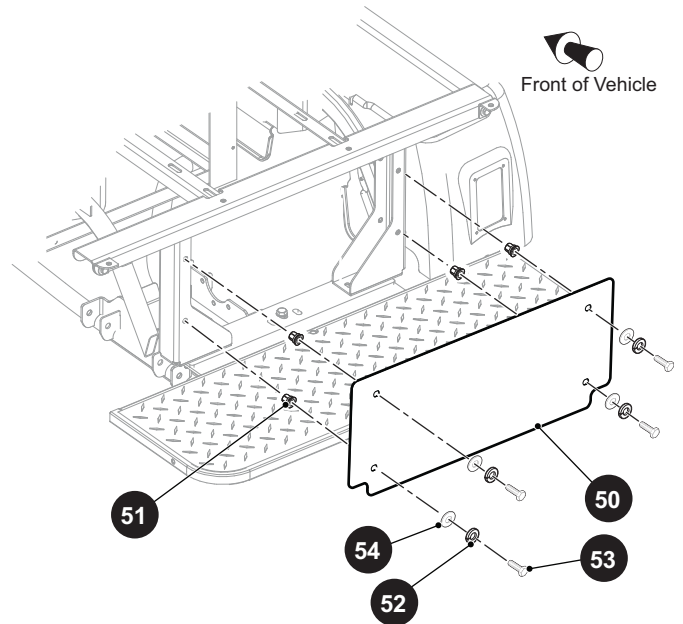

Fig. 13 Closeout Panel
1. Remove the bolts (53), lock washers (52), washers (54) and nuts (51) securing rear closeout panel (50) to chassis frame (Ref. Fig. 13).
2. Remove the rear closeout panel (50).